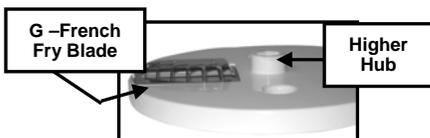

Fig. 15
2. Using the finger holes in the French fry blade holder, fit it over the spindle and press firmly into place. (Fig. 15)